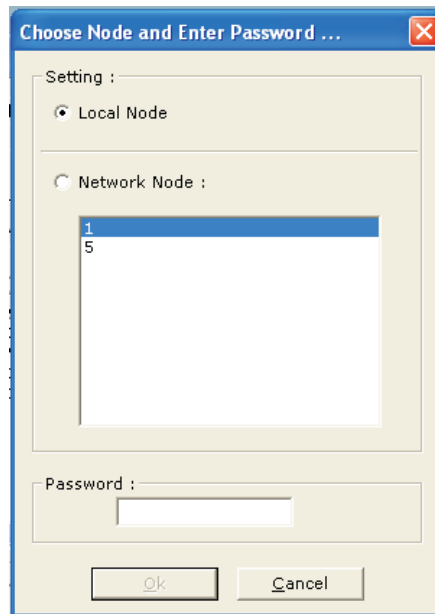

Figure 4-34. Select Node and Enter Password - Receive Walk Test Log
1. Select **Tools>Receive Walk Test Log** to copy the contents of the log of walk-test events created via the "Walk-Test" procedure in the "Test" Menu to a text file. In response, the prompt for a password (Figure 4-34) is displayed.